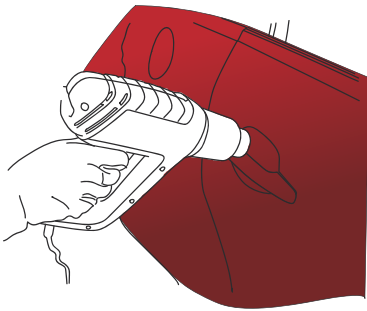

Figure 33
- › Once the application is finished, heat again all the parts which have undergone severe deformation using the heat gun. (FIG. 33)